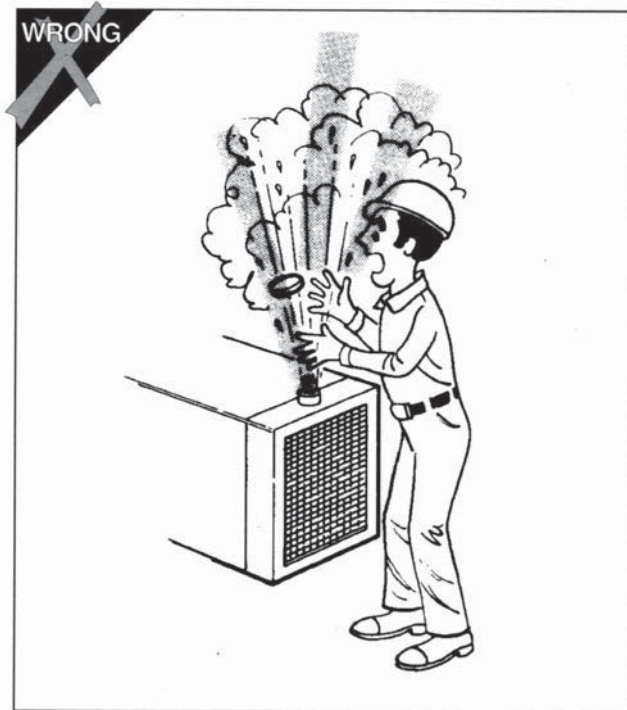

FIG. 38
- Stop the engine and let the engine and radiator cool before checking. (FIG. 38)